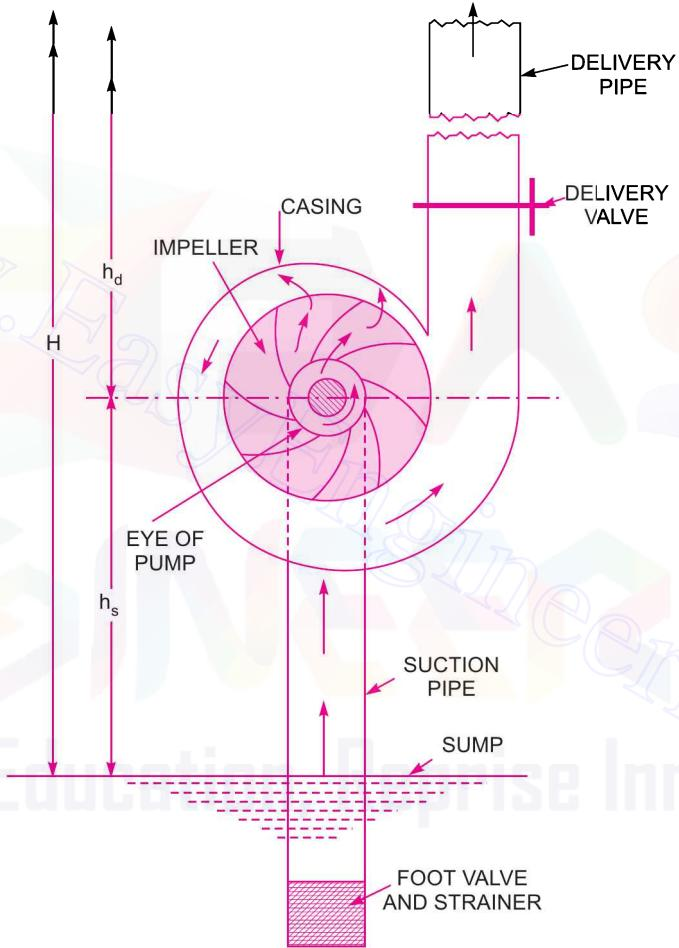

Fig. 19.1 Main parts of a centrifugal pump.
All the main parts of the centrifugal pump are shown in Fig. 19.1.
- (a) Volute casing as shown in Fig. 19.1.
**(a) Volute Casing.** Fig 19.1 shows the volute casing, which surrounds the impeller. It is of spiral type in which area of flow increases gradually. The increase in area of flow decreases the velocity of flow. The decrease in velocity increases the pressure of the water flowing through the casing. It has been observed that in case of volute casing, the efficiency of the pump increases slightly as a large amount of energy is lost due to the formation of eddies in this type of casing.
**1. Suction Head ( $h_s$ ).** It is the vertical height of the centre line of the centrifugal pump above the water surface in the tank or pump from which water is to be lifted as shown in Fig. 19.1. This height is also called suction lift and is denoted by ' $h_s$ '.